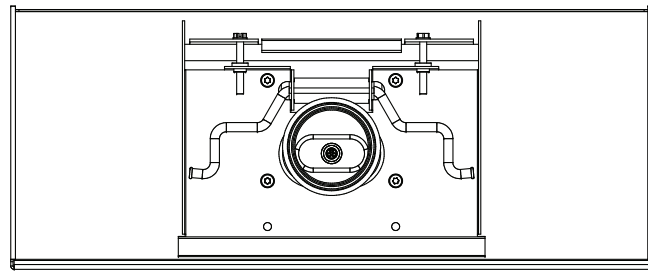

Figure 1
1. Remove luminaire and mounting plate from carton. Place luminaire on cardboard or towels to protect finish. Position luminaire so clamp screws are facing up. See Figure 1.